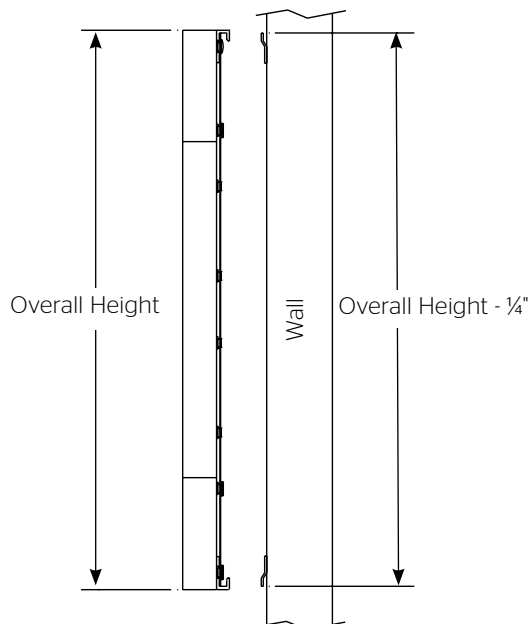

Figure 6
3. To install the lower wall bracket, you must measure the overall height of the screen frame and subtract $1/4"$. This is the dimension from the top of the upper wall bracket to the bottom of the lower wall bracket. See Figure 6.
3. To install the lower wall bracket, you must measure the overall height of the screen frame and subtract 1/4". This is the dimension from the top of the upper wall bracket to the bottom of the lower wall bracket. See Figure 6.